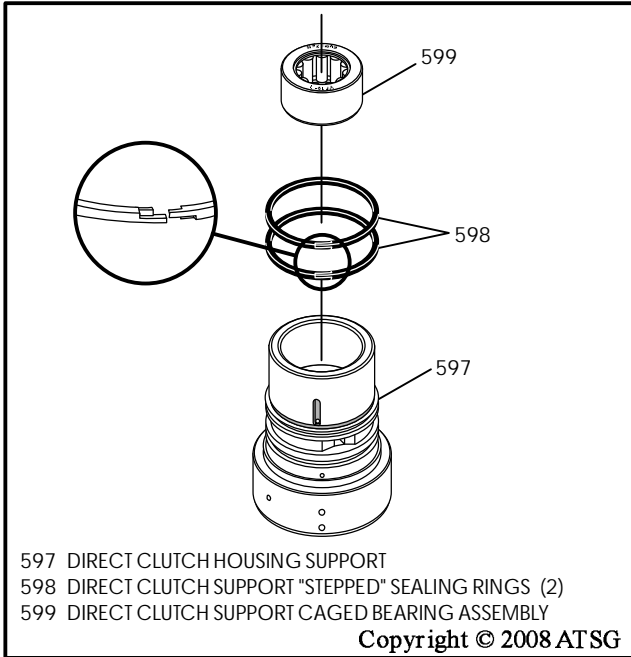

Figure 68
7. Remove and discard the direct clutch "stepped" sealing rings, as shown in Figure 68.
8. Replace the caged needle bearing as necessary using the proper drivers (See Figure 68).
9. Install two new direct clutch "stepped" sealing rings onto direct clutch support, as shown in Figure 68, ensuring steps are engaged properly.